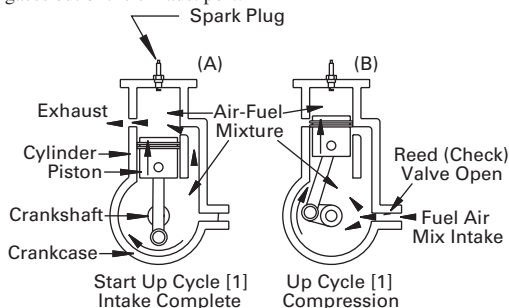

FIGURE 8-3: Two-Stroke Intake and Compression Cycle
The first schematic (figure 8-3), shows how both intake and compression are combined. Intake of air-fuel mixture into the cylinder is completed at the bottom of the downstroke by the piston uncovering the inlet port so that the pressurized air-fuel mix is expelled from the crankcase below the piston up into the cylinder above the piston 8-3(A). The air-fuel mix moving into the cylinder also forces the last of the exhaust gases out of the exhaust port.
In figure 8-3(B) we see both the input and exhaust ports are covered by the piston moving up, which causes the mixture to be compressed. At the same time, the next charge of air-fuel mix is being drawn into the crankcase through the Reed valve (a one-way check valve) by the vacuum induced by the upward moving piston.